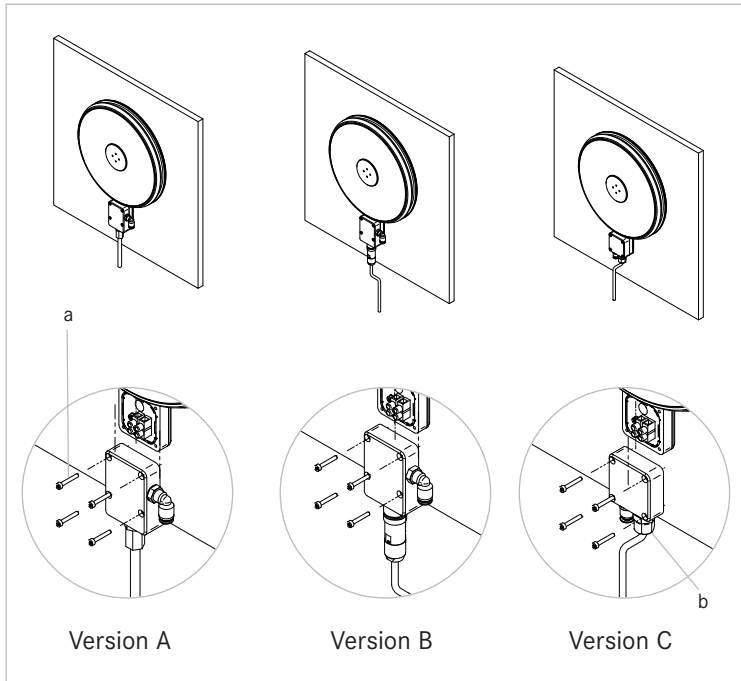

Figure 9: Fastening cable cover
- Fasten the cover with the included screws (a) M3x20 (Figure 9).